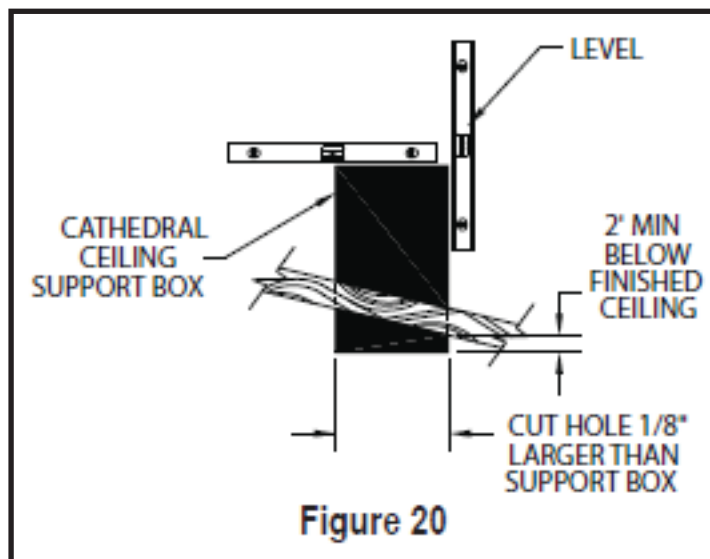

Figure 20
**Step 4.** Lower the Support Box through the hole in the roof until Support Box protrudes at least 1-inch below the low side of the ceiling (Fig. 20). Align the Support Box both vertically and horizontally with a level. Temporarily tack the Support Box in place through the inside walls and into the roof sheathing.